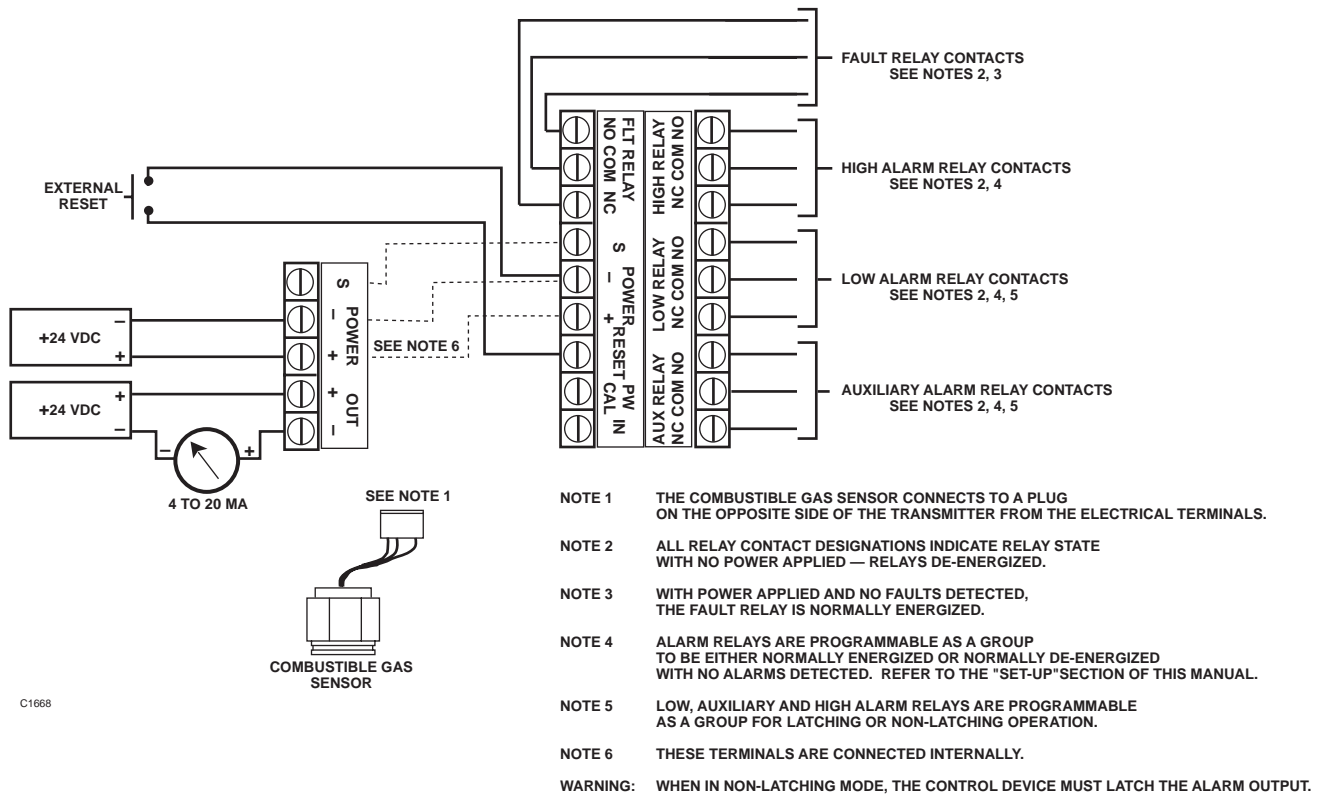

Figure 7—A Typical System - Infiniti Transmitter with Combustible Gas Sensor, Isolated Current Output and Relay Outputs
9. Connect the power and current output leadwires to the screw terminals on the plug that is provided. See Figures 7, 8, 9 and 10 for examples of transmitter wiring. Connect the shield to earth ground at the power supply. Under normal conditions, the panel or field end of the shield should **not** be grounded at the transmitter.
10. For Relay models, refer to Figures 7 and 8 when connecting external loads to the relay outputs. For models without relays, proceed to step 11.
11. An external reset switch can be wired as shown in Figures 7, 8, 9 and 10. The use of shielded wire is recommended for wiring the switch.
- Figure 7 — A Typical System, Infiniti Transmitter with a Combustible Gas Sensor, Isolated Current Output and Relay Outputs